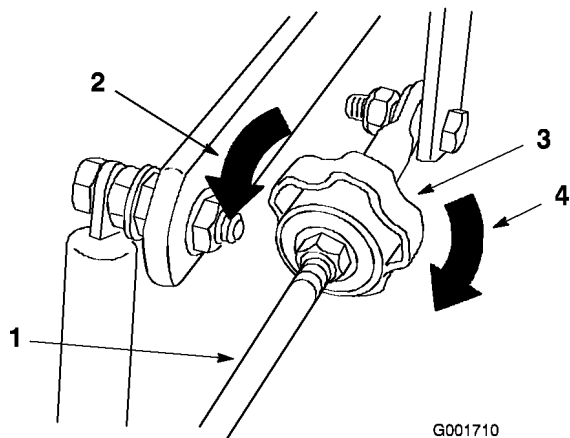

Figure 40
4. Adjust the tracking as follows (Figure 40):